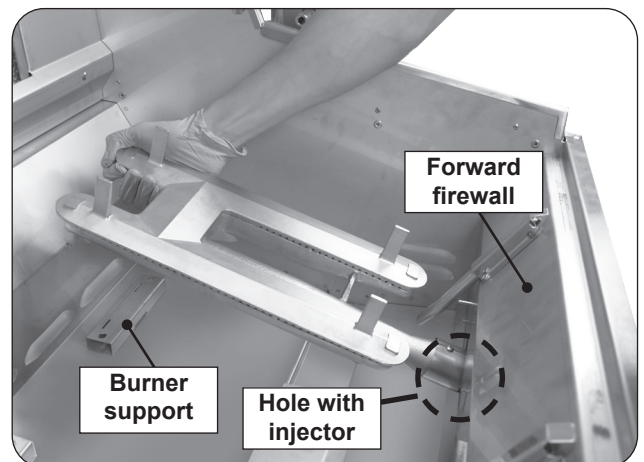

Fig. 36-2 Remove burners
3. Carefully lift the burner from the burner support and out from the hole in the forward fire wall. See Fig. 36-2.